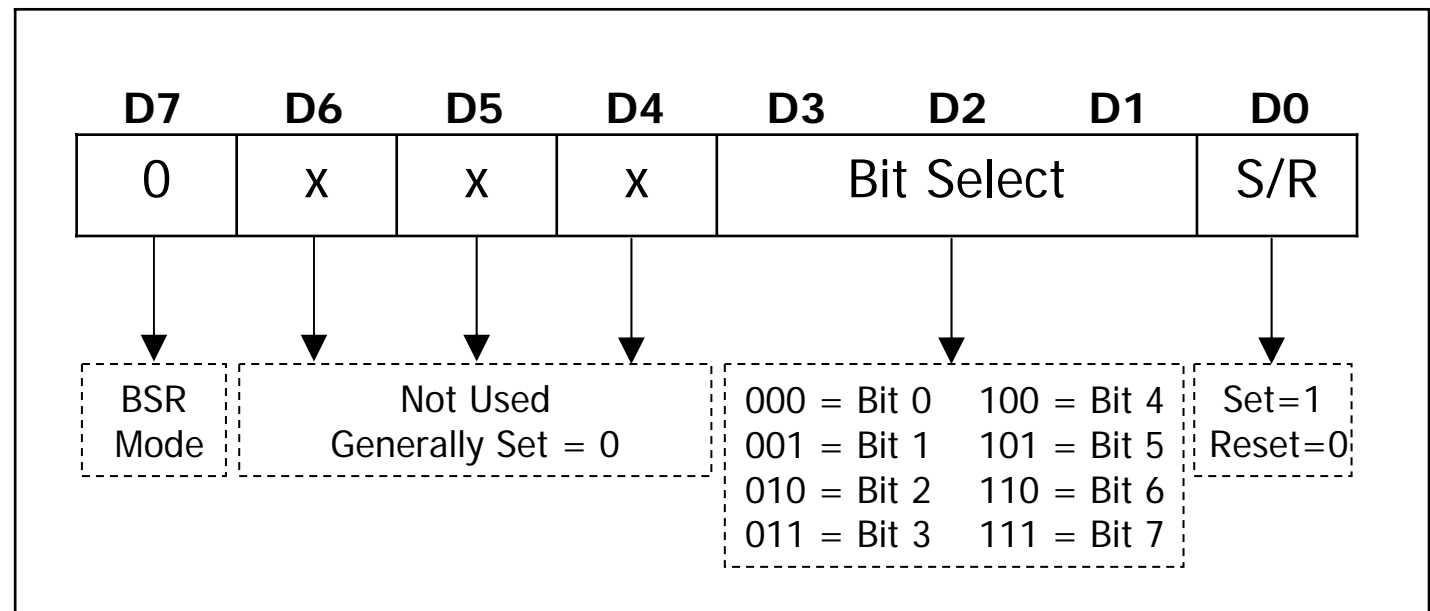

Figure 15-12. BSR Control Word
- ❑ BSR mode allows one to set to high or low any of the PC0 to PC7, see figure 15-12.